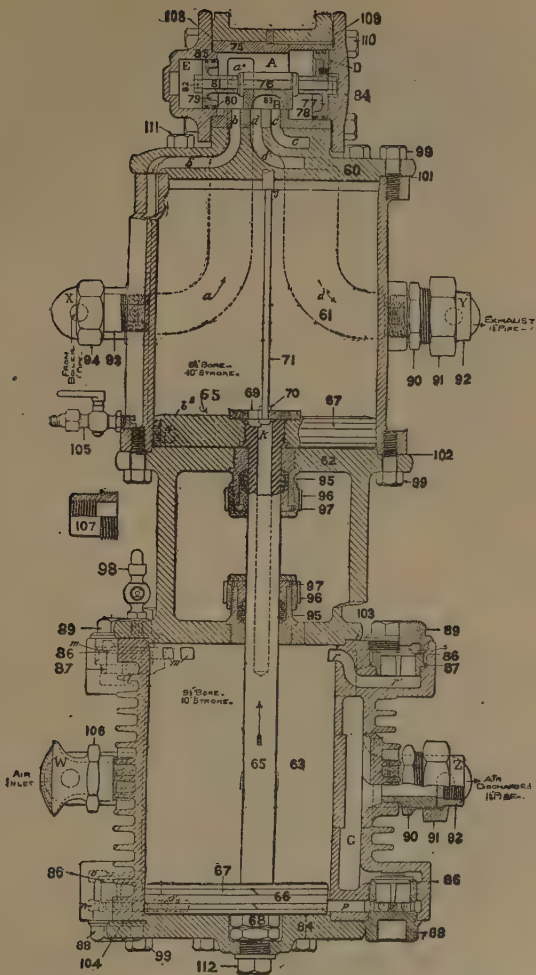
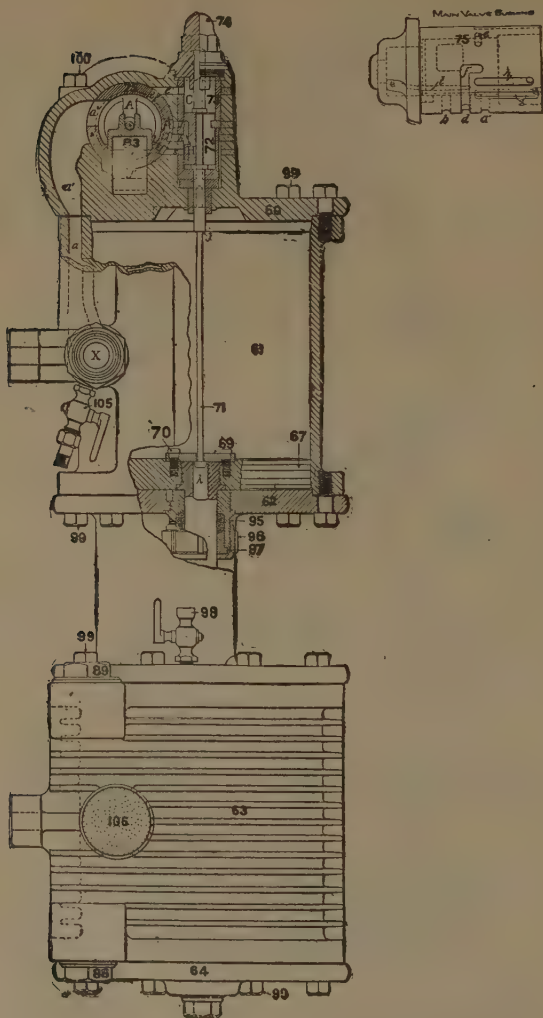

Fig. 280. Nine and One-Half-Inch Air Pump.
Fig. 281. Nine and One-Half-Inch Air Pump.
A. Referring to Figs. 280 and 281: the valve motion consists of two pistons, 77, 79, of unequal diameter, on common rod, 76, and having between them a D valve 83, to distribute steam to the upper or to the lower side of the main steam piston 65, as required. Steam enters the pump at X (where a stud and nut admit of direct attachment of the pump governor) and by passages *a* and *a*¹ and port *a*² is admitted to the slide-valve chamber between the two pistons 77 and 79. As the piston 77 is larger than 79, the action is to force the two to the right as shown in Fig. 280, thus letting steam under the main piston 65 through the port *b* to the passages *b*¹ and *b*², forcing the main piston upward. The steam that has forced the main piston downwards is exhausted to the atmosphere through the passage *c*, port *c*¹, and cavity *B* to the slide valve 83, port *d* and passages *d*¹ and *d*² at the connection *Y*, whence it is taken by a suitable pipe to the smoke box.
A. This is shown in Fig. 281, port t communicating between the chamber E in the main-valve head 85 and exhaust passage f^1 , and hence being in constant connection with the atmosphere, taking the pressure off that surface of the main-valve piston 79, which is exposed to the chamber E . The reversing valve 72 works in the chamber C in the center of the steam-cylinder head, taking steam from the slide-valve chamber A through the ports c and e^1 ; this valve being moved by a rod 71 extending into the space k of the hollow piston rod. This valve is to admit steam to and exhaust it from the space D between the main-valve piston 77 and the head 84. It is shown in Fig. 280 in position to exhaust the steam before used, from the space D through the port h (Figs. 280 and 281), port h^1 , reversing valve cavity H , and ports f and f^1 , to the main exhaust ports d , d^1 , and d^2 .
A. Steam is let in from chamber C to chamber D through the ports g and g^1 (Fig. 281), thus balancing the pressure on both sides of the main-valve piston 77, when the steam in chamber A acting on the effective area presented to it, of the main-valve piston 79, forces it to the left, and lets live steam to the upper side of the main steam piston 65, exhausting from the piston rod side, and forcing it downwards, until at the lower end of its stroke the button head on the lower end of the reversing-valve stem 71 comes in contact with the reversing-valve plate 69, again moving the reversing-valve 72 to the position shown in Fig. 281, thus completing a full double stroke.
A. Air from outside is drawn into first one end and then the other of the air cylinder 63, through the screened inlet 106 at *W*, chamber *F*, and the receiving valves 86 to the left (Fig. 280), and thence discharged under pressure through the discharge valves 86 to the right (Fig. 280), to the chamber *G* and the main reservoir to which the pump should be connected by a 1¼-inch pipe at *Z*.